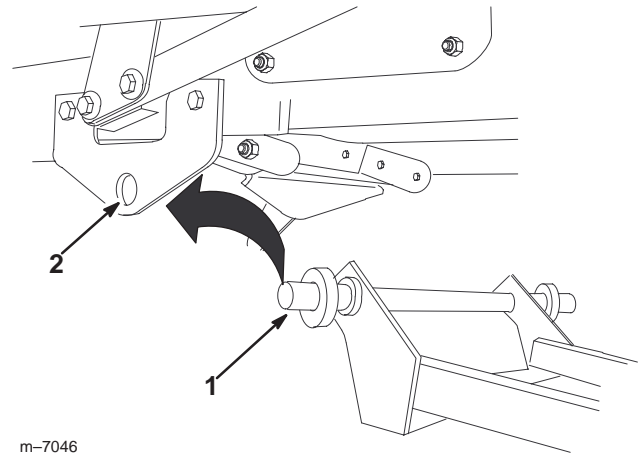

Figure 13
3. Lift the rear shaft of the frame assembly up and into the side plate hole (Fig. 13).